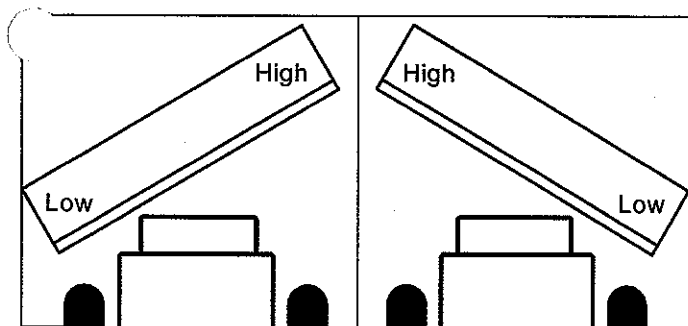

figure 3
- figure 3, extend tilt cylinders.